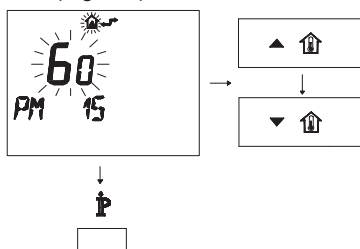

Fig. 8.4
- Modify the programmed SET by pressing buttons **▲** or **▼** until a **setting of 60** is displayed, wait for the number programmed to flash (Fig. 8.4).